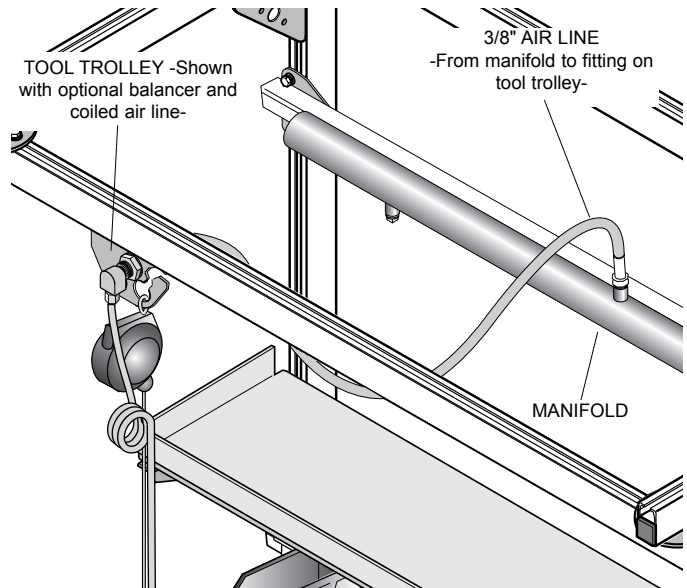

**Figure 10.**
- Slide End Stop minimum of 2" into one end of trolley and tighten bolts to secure. Roll tool trolley into opposite end of tool rail. Install remaining End Stop (Fig. 10).